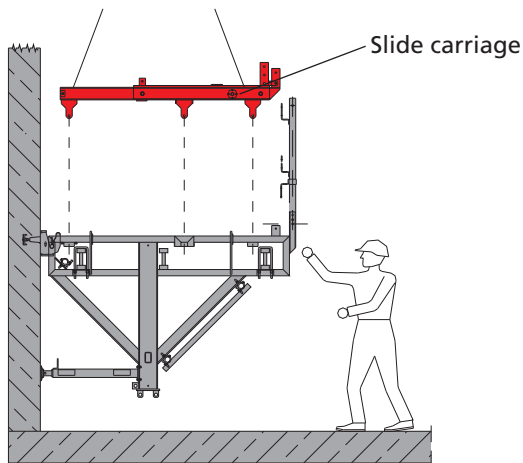
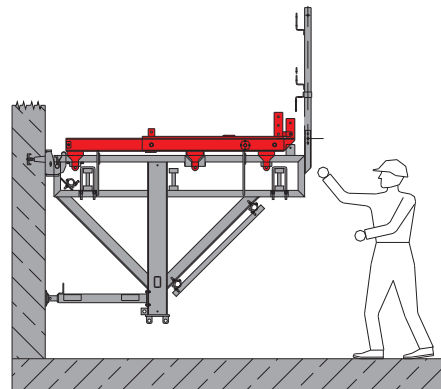

Fig. 19.1
Fig. 19.2
The slide carriage allows to slide back the attached formwork panels by 2'-4" (70.0 cm). To mount the slide carriage remove the three (3) integrated pins. Place the slide carriage on top of the bracket (Fig. 19.1). After that secure the carriage with the before removed pins (Fig. 19.2).